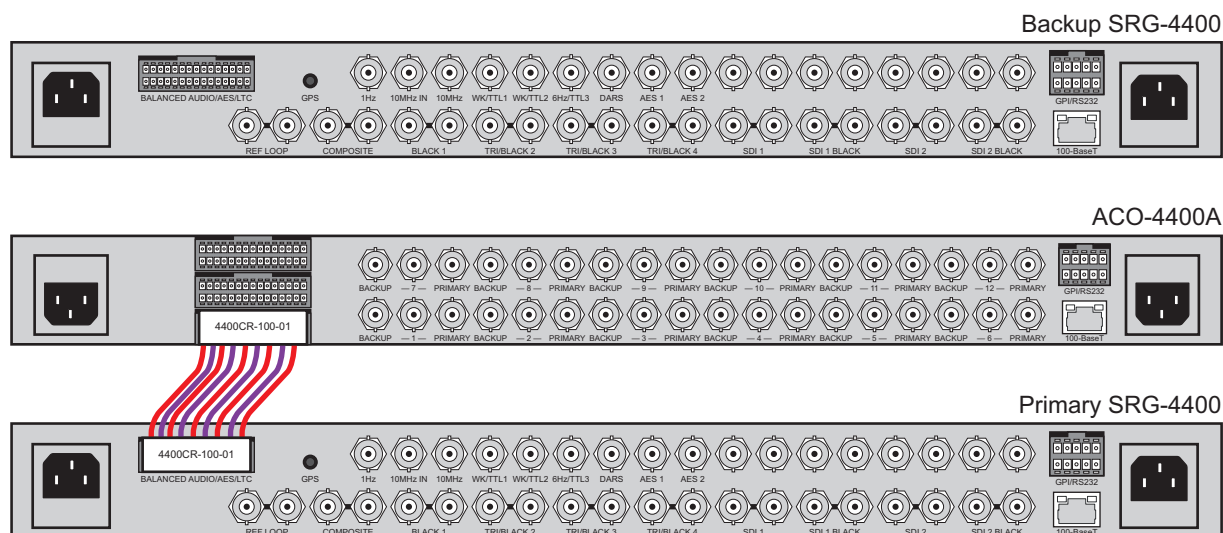

Figure 2.2 Connecting the Primary SRG-4400 to the ACO-4400A Rear Panel
2. Connect the other end of the same Interface Cable to the **bottom** 30-pin Connector on the ACO-4400A rear panel. Refer to **Figure 2.2**.